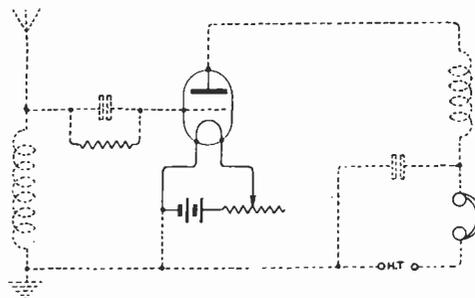

Fig. 1.
(1) Switch on L.T. If the valve does not light, the fault is in the circuit shown with a full line in Fig. 1. Examine valve filament. If apparently